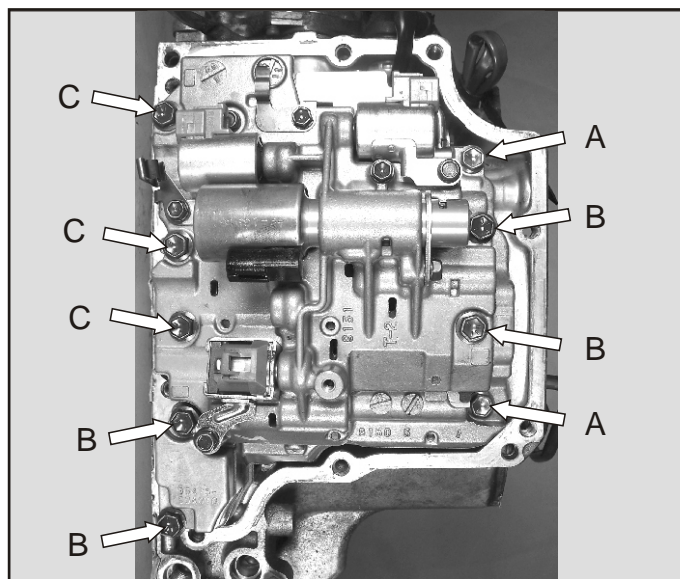

Figure 89
38. Remove the 10 mm headed valve body to case retaining bolts as shown in Figure 89. **Note: bolt lengths are as follows, A = 16mm long, 50mm long and C = 55mm long.**